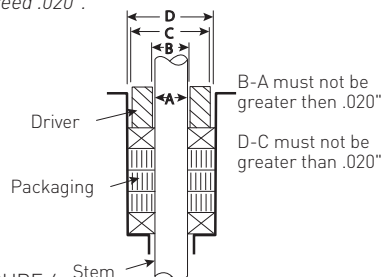

FIGURE 4
6. Install one ring at a time, in the proper sequence, using a packing driver or gland bushing. Each ring must be sealed individually with a packing driver. See Fig. 4.